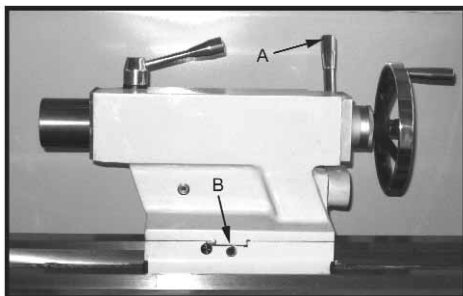

Fig. 19
1. Loosen tailstock in position by lowering locking handle (A, Fig.19) and loosening hexagon head eccentric shaft.
2. Alternately loosen and tighten front and rear set screws (B, Fig.19).